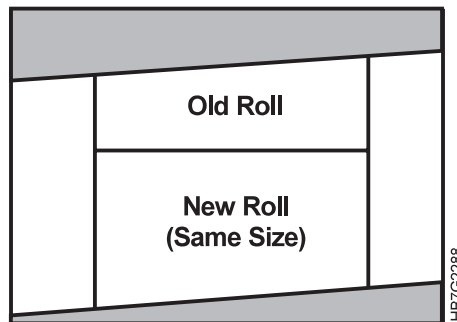

Figure 206. Width of New Paper Roll is Same as Old Paper Roll
- a If the width of the new roll is the same as the paper on the web, as shown in Figure 206, align the left edge of the new paper with the left edge of the paper on the web.